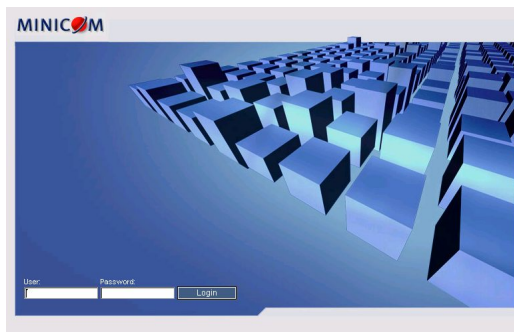

Figure 5 Login page
2. Type the IP Control system IP address - `https://IP address/config` - and press **Enter**. The login page appears, see Figure 5.